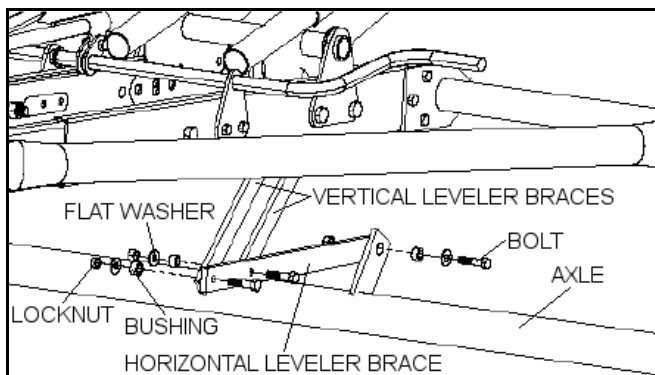

Figure 3.32
- Install horizontal leveler brace using three 7/16" x 1-1/2" bolts, 7/16" washers, bushings and locknuts. The 2 holes closest together bolt to the 2 leveler connectors. The single hole at the other end will bolt to the tab on axle (see Figure 3.32).